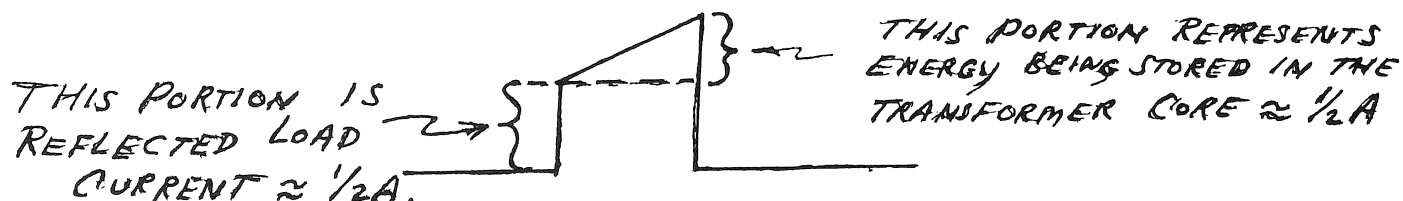

FIGURE 3-19
The collector current vs. time in Q(D) will be a trapezoid (see Figure 3-19).